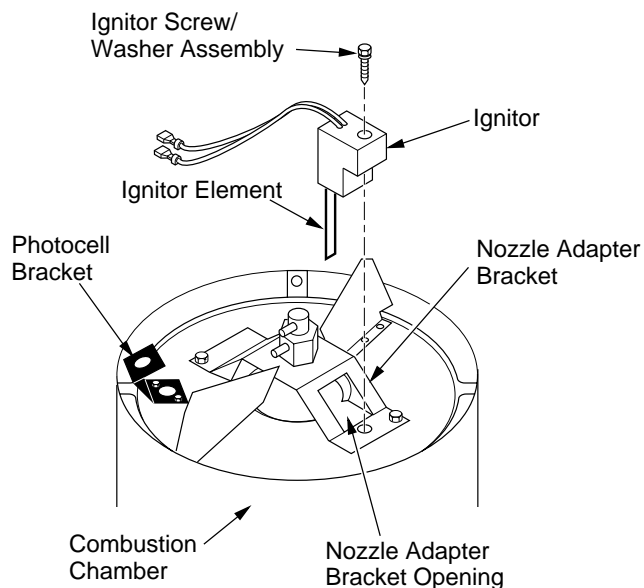

Figure 13 - Ignitor Replacement (125T, 170T Model Shown)
6. Remove combustion chamber. Stand combustion chamber on end with nozzle adapter bracket on top (see Figure 13).
9. Carefully guide ignitor into opening in nozzle adapter bracket. Do not strike ignitor element. Attach ignitor to nozzle adapter bracket with screw using a 1/4" nut driver (see Figure 13). Torque .90 to 1.69 N-m (8 to 15 in-lbs) Do not over torque.